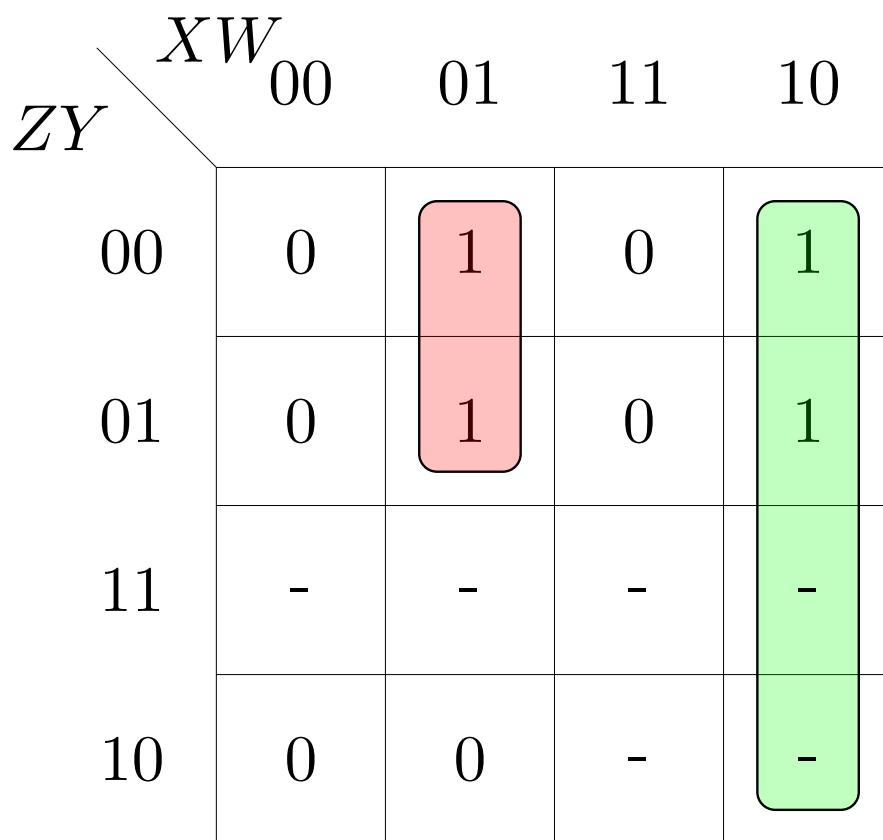

Figure 4.6: K-map for  $B$  with don't cares
3. The revised K-map for B is available in Fig 4.6 Show that